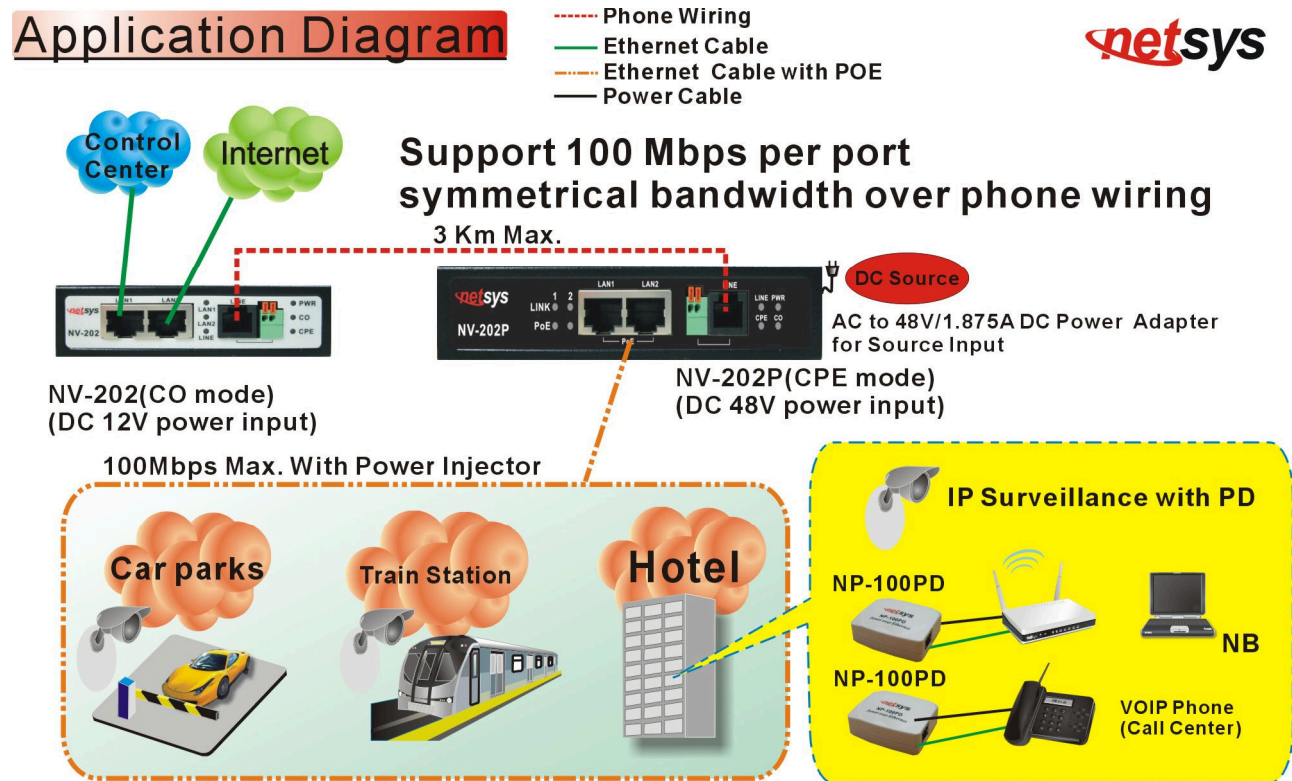

Figure 2.6 NV-202 / NV-202P point to point application diagram
1. User can use NV-202 bridge (CO mode) to connect NV-202P bridge (CPE mode), or use NV-202P bridge (CO mode) to connect NV-202 bridge(CPE mode) that to do a variety of applications. The bridge's line port supports 100Mbps maximum for data service across existing phone wiring. It is easy-to-use which do not require installation of additional wiring. Every modular phone jack in the home can become a port on the LAN. Network devices can be installed via a telephone wire in any suitable distance. (depending on the speed) (Figure 2.6)